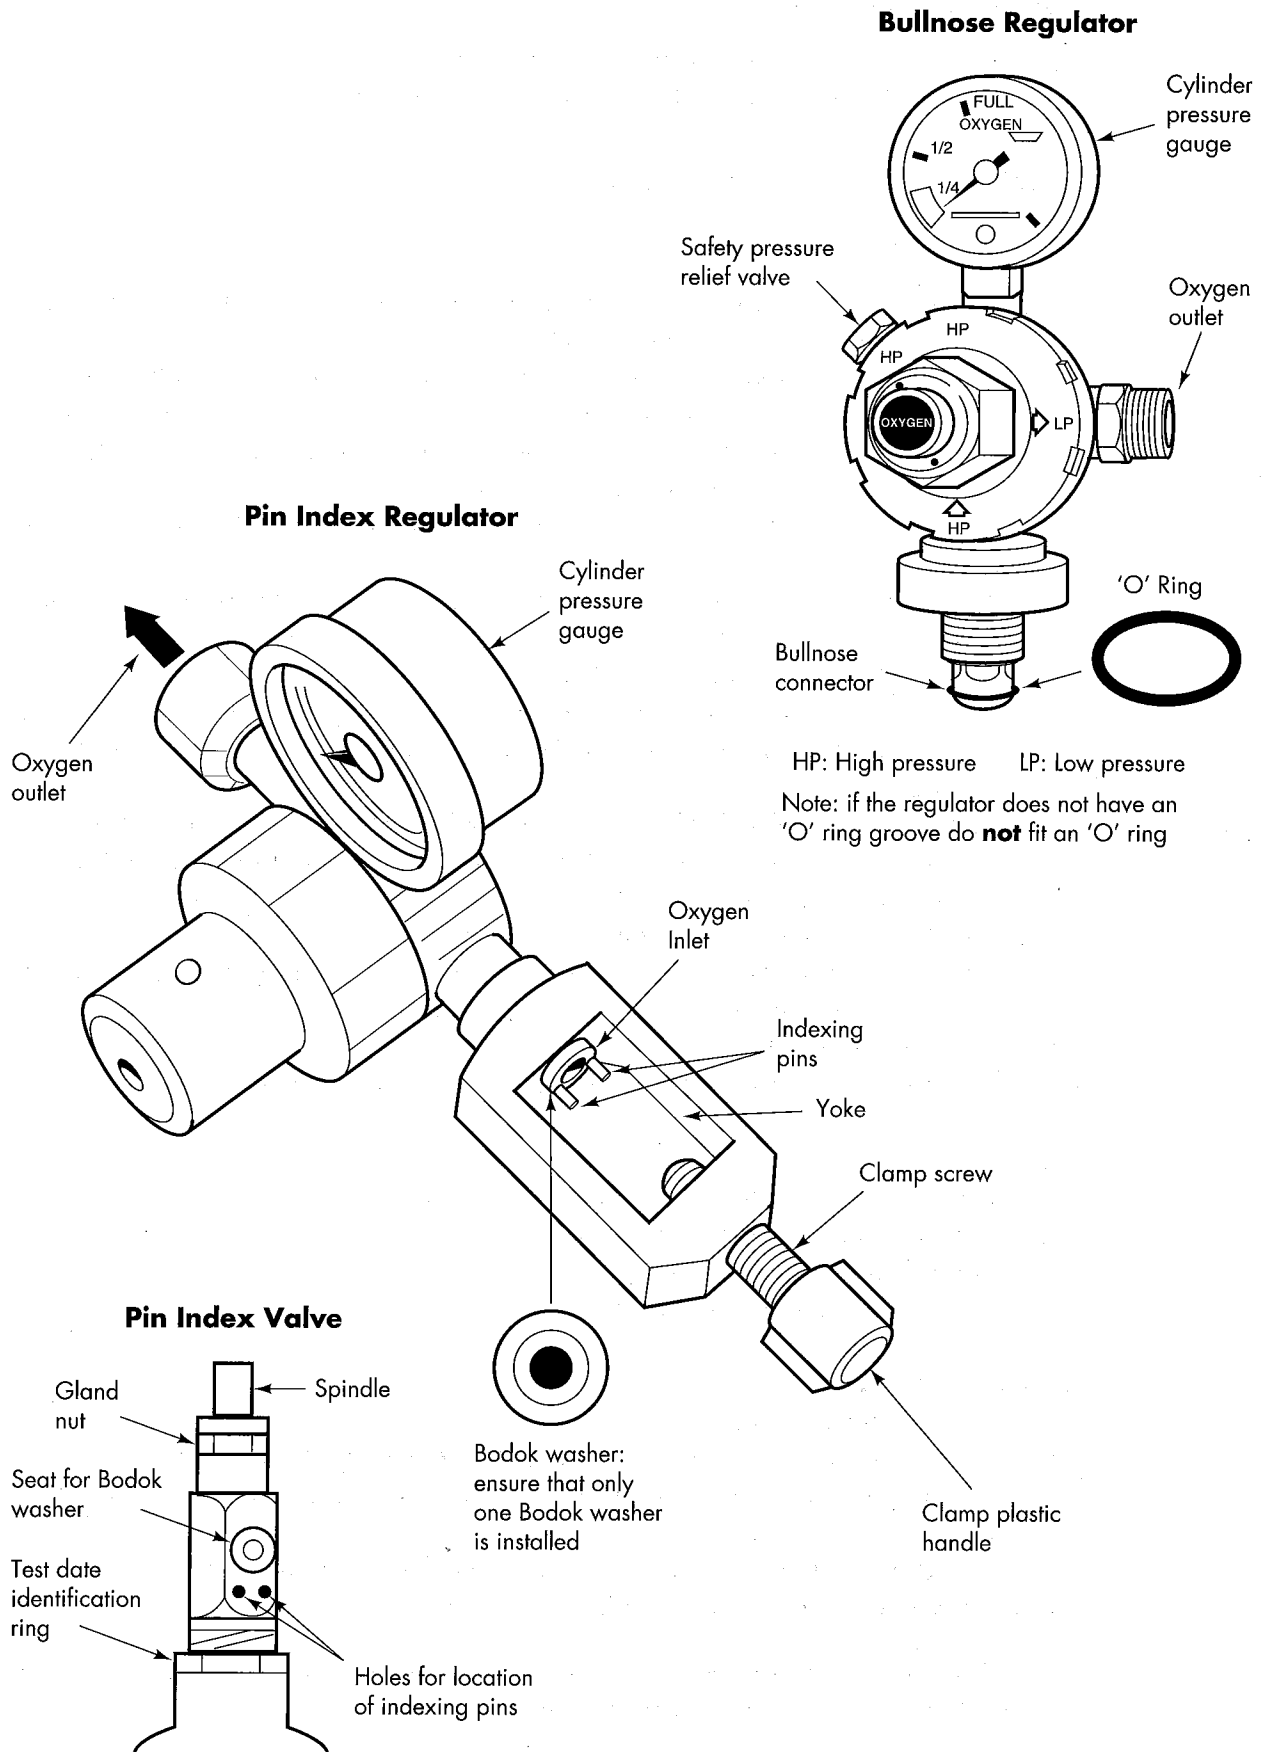

Figure 17: Pin index and bullnose regulators, "O" ring and Bodok washer locations
- iv. check that the 'O' ring is in place where there is a groove for it and in good condition (Figure 17)
- vi. clamp the regulator to the cylinder, using a Bodok washer as a seal (Figure 17)
- vii. when the Bodok washer is in place, use the handle to tighten the clamp (Figure 17)